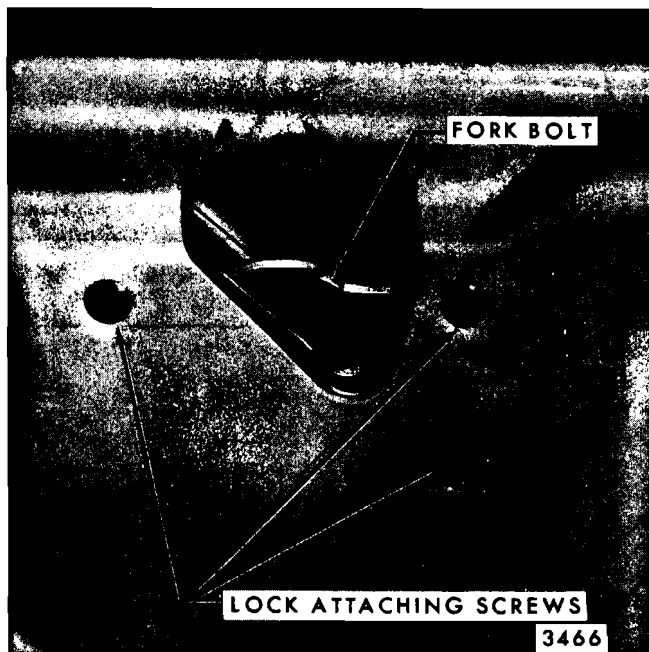

Fig. 9-5—Dual Tail Gate Right Upper Lock Engagement
- A. The right upper lock is engaged by pivoting fork bolt to its full clockwise limits (arrow "A", Fig. 9-5).